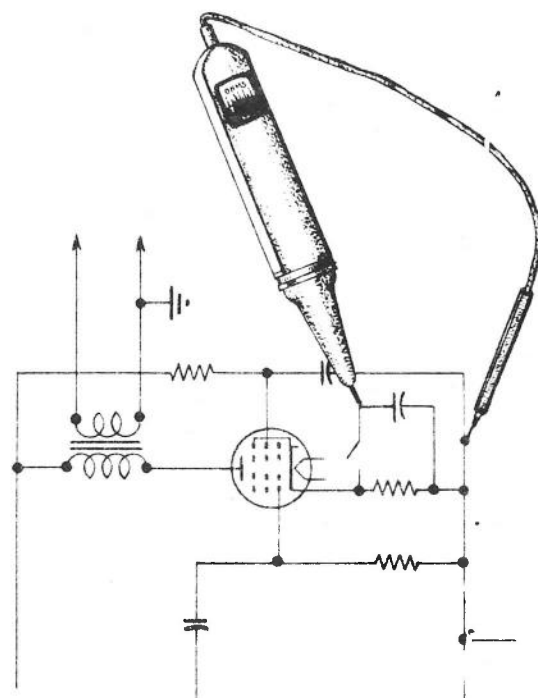

Figure 4-11. Checking an Electrolytic Capacitor in a Radio Receiver with Resistance Indicator-Probe
(1) This unit will measure approximate resistance values in the range from 0 to 10,000 ohms.
(2) It will indicate continuity of wiring.
(3) The forward and reverse resistances of crystal rectifiers and small copper-oxide rectifiers can be indicated. The tip of the Probe is positive.
(4) Electrolytic capacitors can be tested for short by placing the tip of the Probe to the positive side of the capacitor and return lead to the negative side with one end of the capacitor disconnected. Figure 4-11 shows the Probe being used to test an electrolytic capacitor.